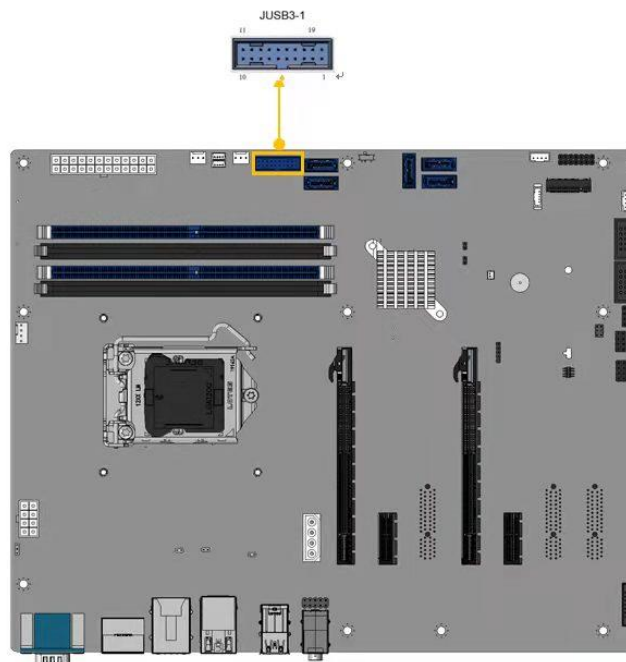

Figure 3-31: Internal USB 3.2 Gen 1 Connector Location
- CN Location:** See Figure 3-31